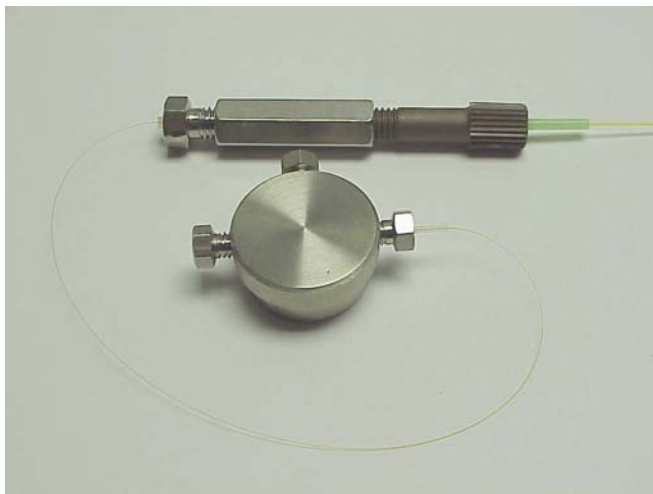

Figure 6-12 Attaching the 20- $\mu\text{m}$  Fused Silica
7. Attach 20- $\mu\text{m}$  id fused silica by threading the 2-  $\mu\text{m}$  i.d. fused silica attached to the union through this nut and sleeve, but do not tighten the tee nut as the silica needs to be mobile (Figure 6-12)